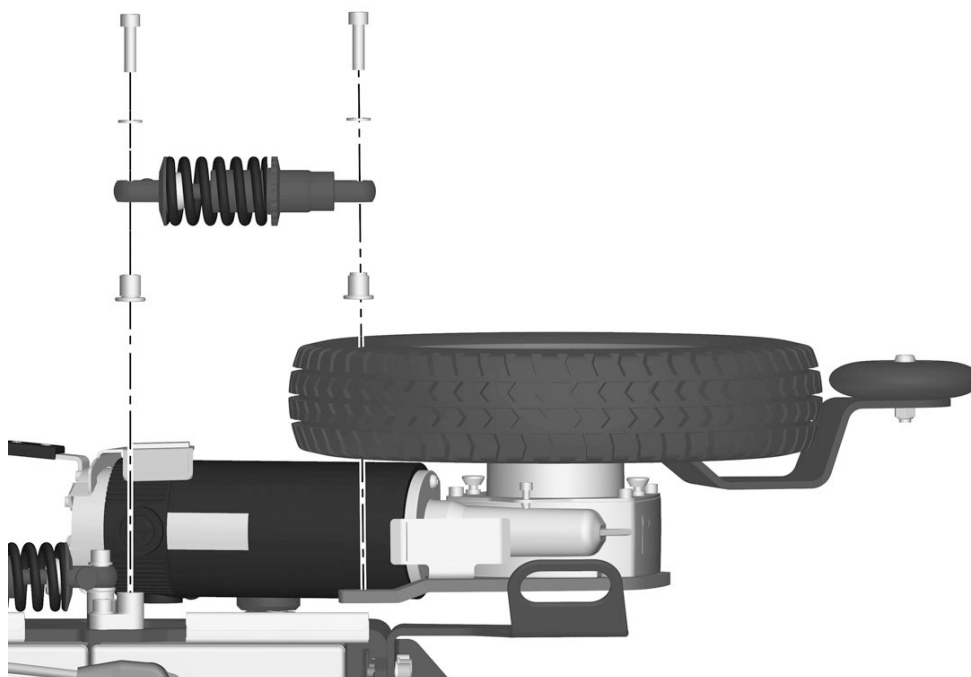

Figure 53. Fitting/removing the front shock absorber.
5. Remove the shock absorber, it's fitted with two screws and washers. See fig. 53.
1. Fit the shock absorber using the two screws and washers. Tighten the screws using a torque wrench. **Tightening torque: 24 Nm / 17.7 Ft/lbs** See fig. 53.
5. Remove the shock absorber, it's fitted with two screws and washers and a nut. See fig. 53 *Fitting/removing the front shock absorber*.
Tightening torque: 24 Nm / 17.7 Ft/lbs See fig. 53.